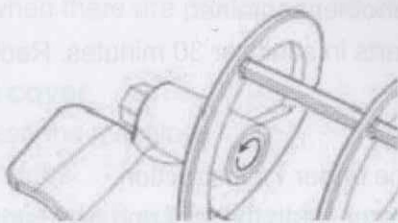

Fig.13
After gasket (A) is installed in, coat the inside of gasket (A) with the provided grease. see Fig.13